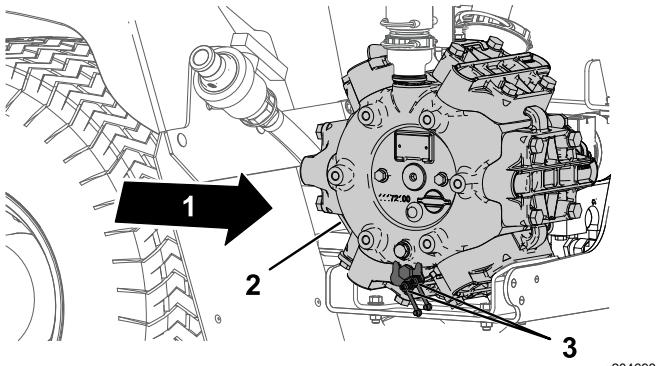

Figure 65
1. Wipe the 2 remote grease fitting clean (Figure 65).
2. Pump grease into the remote grease fitting (Figure 65).